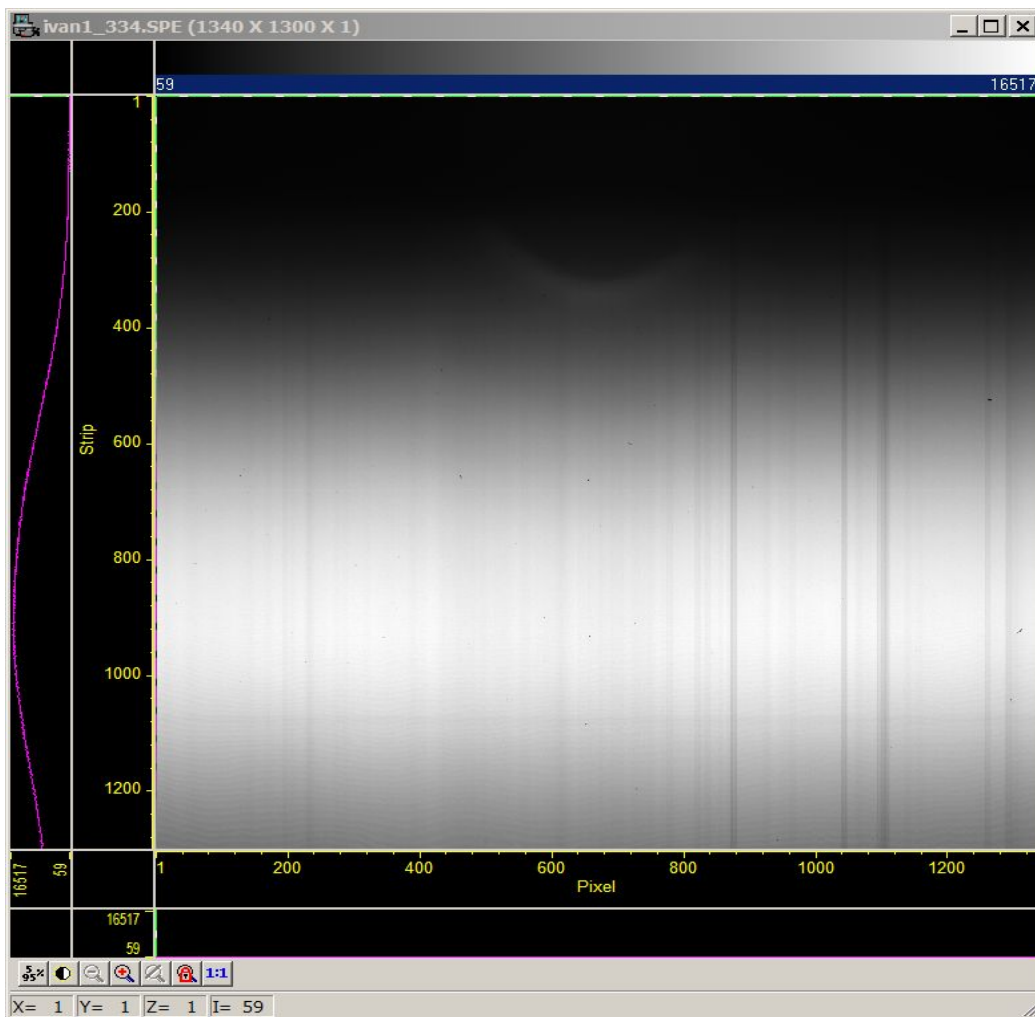

Figure 56
To take in account the effect of different CCD + GRISM system sensitivity, the FLAT FIELD (FF) must be acquired using the same optical configuration for the target's spectrum. Referring again to the previous M66 example (remember that we have taken a spectrum with GRISM 4 + 2" SLIT), the FF needs to be obtained in the same conditions (*Figure 56* shows the FF used for the M66 spectrum). Practically: